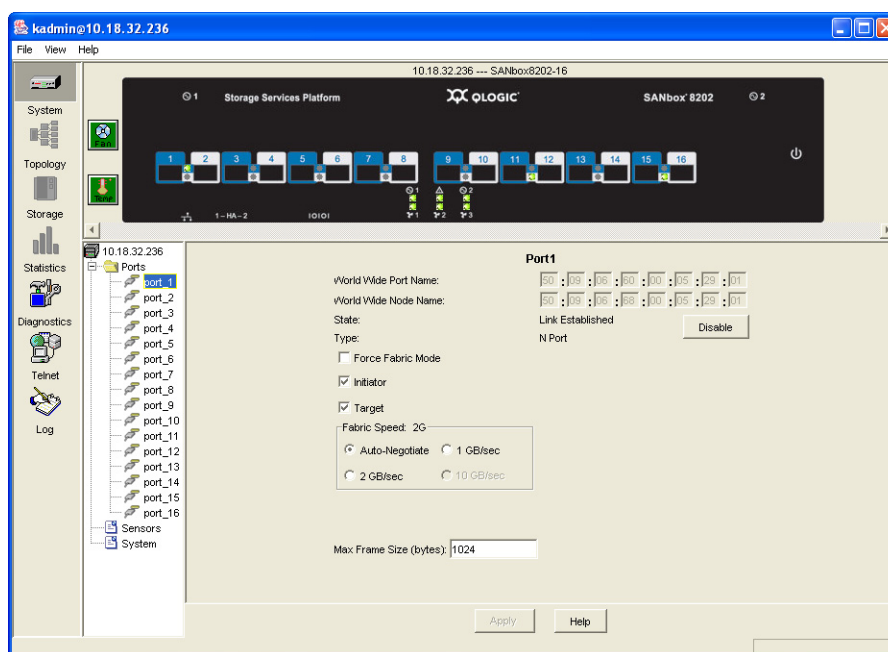

Figure 3-5. System Port Information Screen
3. Click the specific port to manage. The Port Information screen displays (see Figure 3-5).